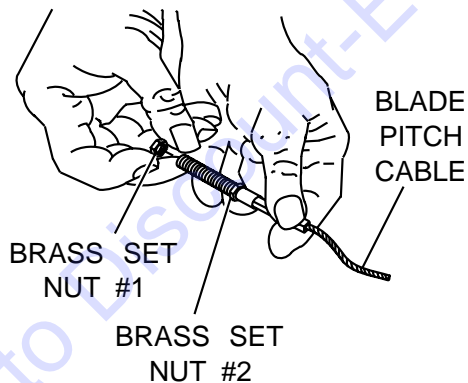

Figure 9. 4-Blade Pitch Cable
2. Remove brass set nut #1 from the blade pitch cable end. See Figure 9.
3. Thread the brass set nut #2 towards the cable as far as possible. See Figure 9.